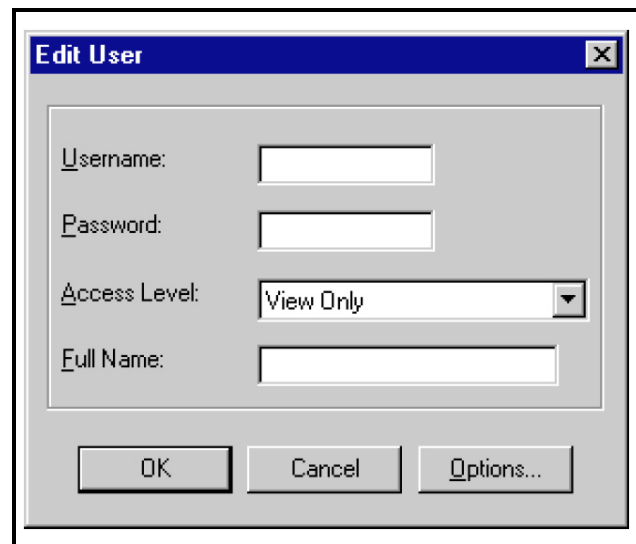

Figure 2-3 - Edit User Dialog Box
2. Select the word USER from the Users list and press the Edit button. The Edit User dialog box (Figure 2-3) should appear.